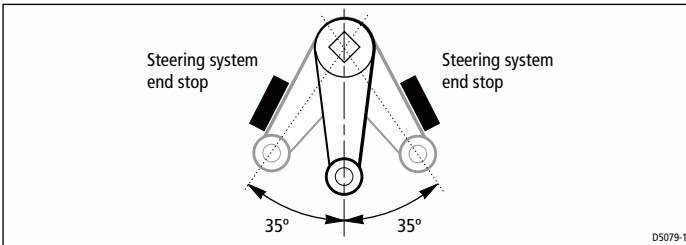

Figure 7: Total rudder movement
- The total rudder movement is limited to +/- 35 degrees by the steering system end stops rather than the linear drive's end limits (see *Figure 7*).